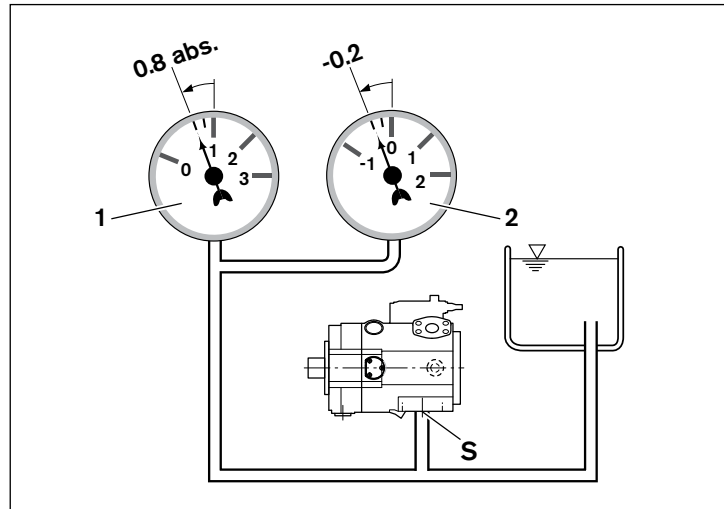

Fig. 8: Suction pressure
- ▶ Make sure that a minimum suction pressure of 0.8 bar absolute (without charge pump) or 0.7 bar absolute (with charge pump) absolute is present at port “S” during operation, in all installation positions and installation locations for the axial piston pump, see Fig. 8. See data sheet for pressure values.